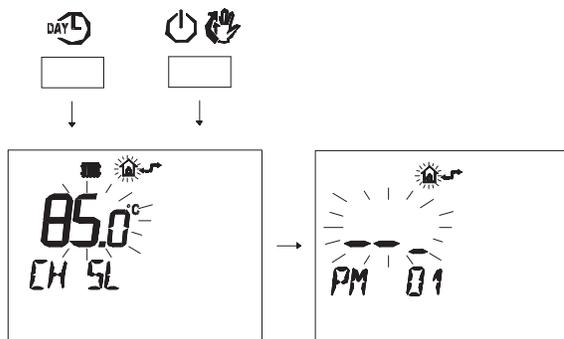

Fig. 7.12
- Press buttons **DAY L** and **POWER** at the same time to enter the transparent programming (Fig. 7.12).